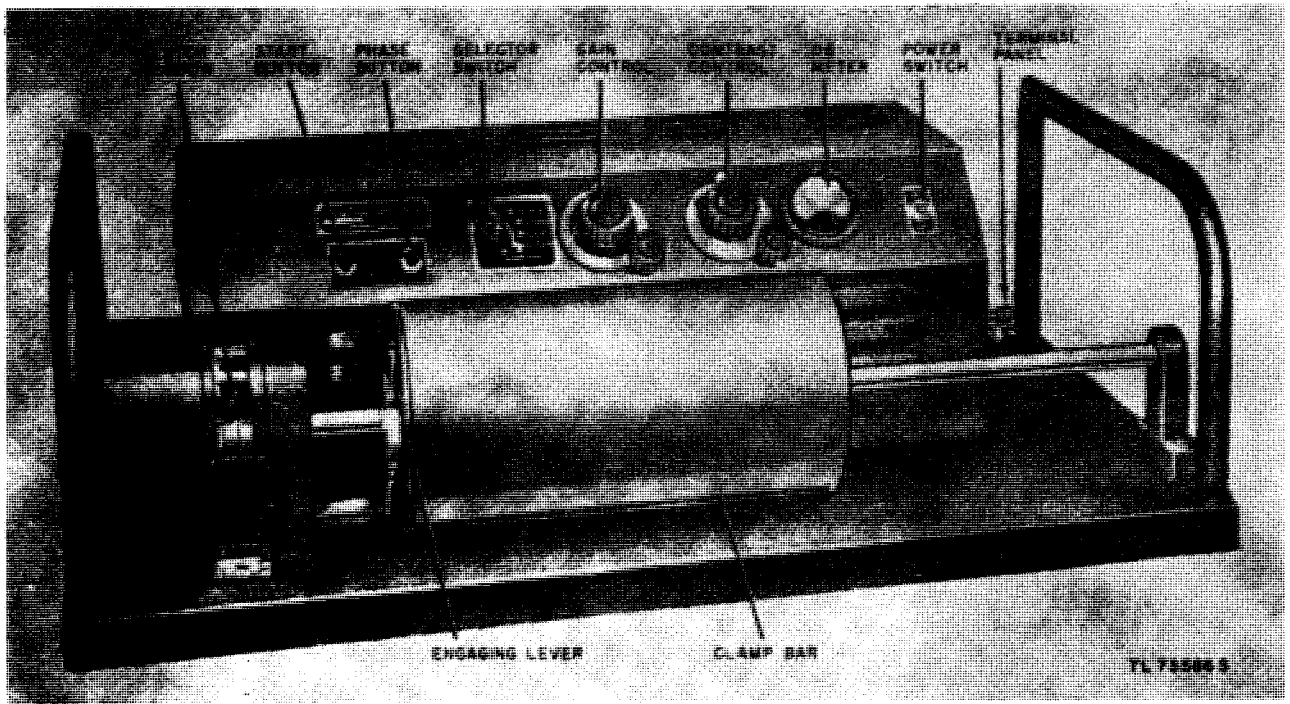

Figure 13. Controls, facsimile transceiver TT-1/TXC-1.
- (2) Transmission over open-wire telegraph lines is sometimes practical, without danger of cross talk into dispatcher circuits, with a +26 dbm signal going into the line. As a further precaution against cross talk in this type circuit, transposition of the wires at $\frac{1}{4}$ -, $\frac{1}{2}$ -, or $\frac{2}{3}$ -mile intervals would be advantageous.
- (3) A line that has low-loss characteristics may furnish a received signal which is higher than the LINE binding post input of the transceiver can accept for satisfactory reproduction. This is indicated by the necessity of setting the GAIN control near zero to obtain the standard +2 db indication required for proper operation of the transceiver. When this condition is encountered, *for receiving only*, connect the line to a plug and insert the plug into the jack on the transceiver marked RADIO RCVR. To reduce hum, connect a wire from the GND terminal to the REC CT terminal. Leave the plug out of the RADIO RCVR jack except when receiving copy. When transmitting, the line must be reconnected to the LINE terminals.
- (4) For transmission over a single commercial wire line, the standard 0 dbm (.78 volt) signal is available at the LINE terminals on Facsimile Transceiver TT-1(*)/TXC-1 when the GAIN control (figs. 13 through 16) on the front panel is adjusted for a reading of +2 db on the DB METER.